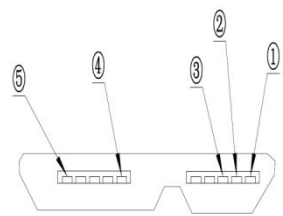

Figure 4-8 IO Serial Port Pins
b) Figure 4-8 shows the instrument’s IO serial port pins. The table below describes the five main pins.
①	Serial In
②	Serial Out
③	/
④	GND (Ground)
⑤	VCC (Power)